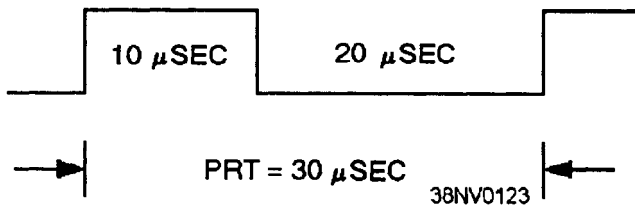

Figure 4-8.—Example of pulse-repetition time (PRT).
- **Pulse-repetition time (PRT)** —The PRT of a signal refers to the time period from the starting point of a repeating waveshape until the starting point of the next repetition. Refer to figure 4-8 for an example measurement.
Using figure 4-8, we can calculate the PRF. Since the PRT is 30 msec, then using the formula would give:  $PRF = 1/PRT = 1/30 \text{ msec} = 33 \text{ kHz}$ .